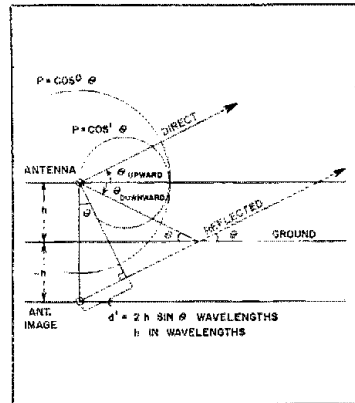

Fig. 2 — This drawing shows how the ground-reflected ray is delayed with respect to the direct wave.
Fig. 2, depicting the delay, d , of reflected signals is a detailed version of Fig. 2-21 in *The ARRL Antenna Book*. The reflected ray travels farther than the direct ray by the distance d' . θ is the radiation angle under consideration. If the antenna height, h , is expressed in wavelengths above ground (and below ground for the image antenna), by geometry, the angles marked θ are equal, and $\sin \theta = d'/2h$, or
Fig. 2 — (A) Physical layout and element vector assignment for a 2-element broadside vertical array. (B) Summation of the element vectors for 90° azimuth heading. (C) Azimuthal radiation pattern of the broadside array.
*Editor's Note: The author's original manuscript (and reference 1) assign negative values to the spacing, S. The mathematical justification for this notation is that S really represents the time a space wave arrives at a secondary element with respect to the excitation of the reference element. Since the wave arrives after it has been radiated by the reference, the time can be rendered as a negative number. However, this definition causes the plotted patterns to have an apparent firing direction 180° from the true major lobe. To reconcile the formula with the real-world radiation patterns, the editor has used positive numbers for element spacings. The patterns given in Figs. 2 through 5 are correct. This can be verified intuitively by sketching a two-element system having quarter-wave spacing and quadrature phasing, and analyzing the response from each end.